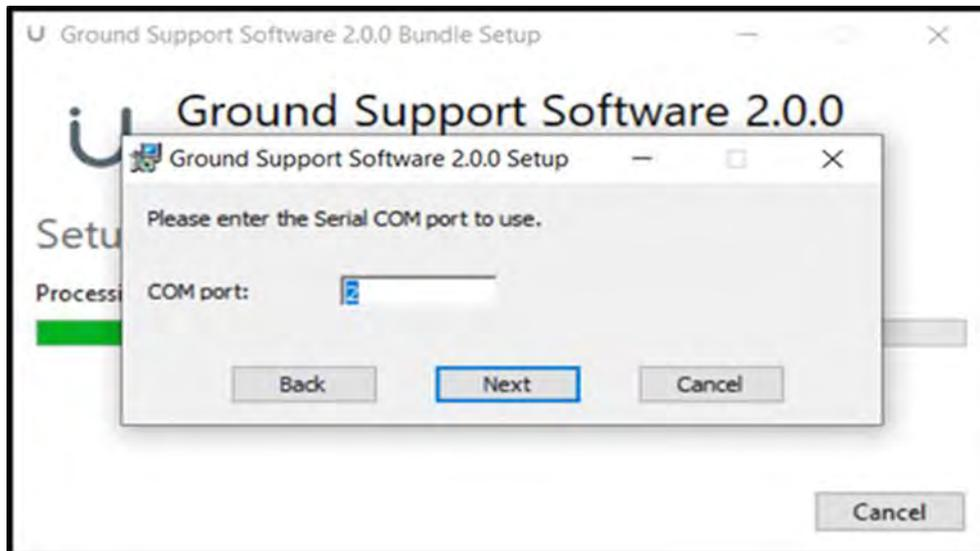

Figure 2-6 Com Port
- (j) The Default COM port allocation for the USB to Serial port adapter is COM port 2 (**Ref Fig 2-6**). Select the next button to continue.